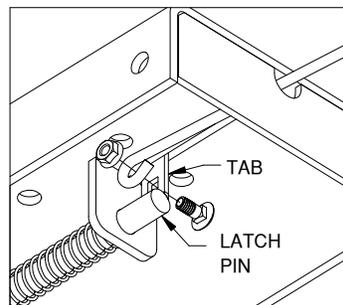

Figure E1.
2. **Install handle.** Install the latch pin release handle by inserting it, from the outside of the truck, through the slot in the end of the center section on the driver side of the truck. Align the handle eyelet with the square hole in the latch pin so the handle is in line with the latch as shown in Figure E1.